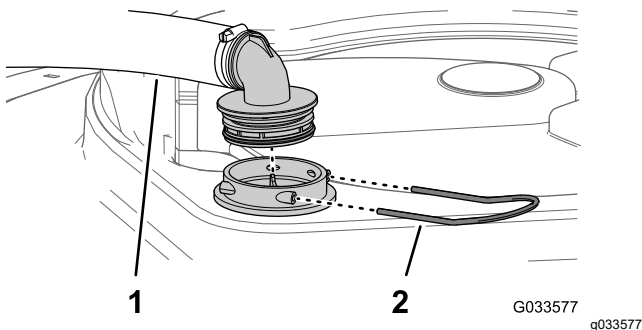

Figure 87
- At the top of the sprayer tank, remove the retainer that secures the hose fitting attached to the large hose from the filter housing (Figure 87).
- Remove the hose and hose fitting from the filter housing (Figure 87).